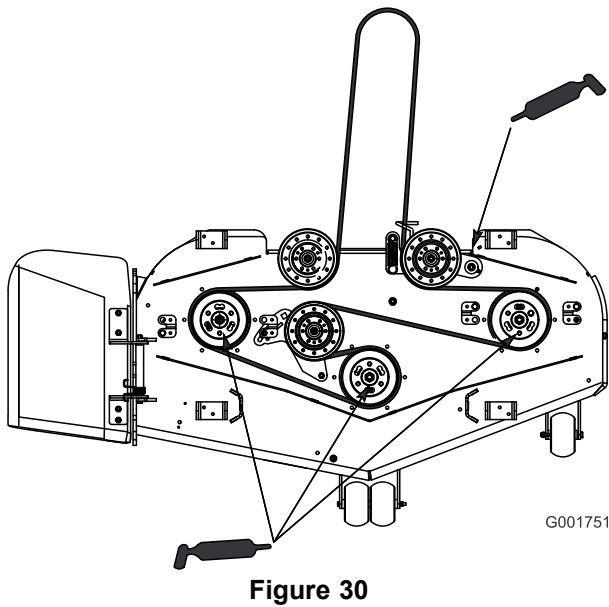

Figure 30
4. Grease the idler pulley pivot (Figure 30).